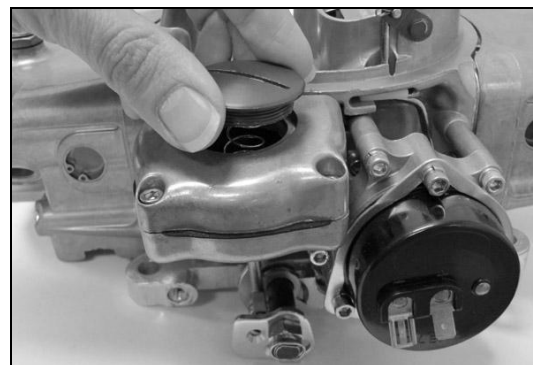

Figure 22
3. Replace with a spring selected from the chart below and reinstall the disk (Fig. 22).